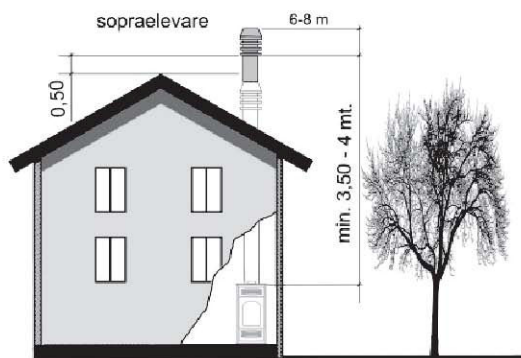

Fig.4
- The chimney pot must be positioned so as to guarantee an adequate dispersion and dilution of combustion products and, in any case, outside the zone of reflux. This zone can be of different sizes and shapes depending on the angle of slope of the roof, so it is necessary to adopt the minimum heights shown in *fig. 4* and *fig. 5*.
- The chimney pot must be of wind-proof type and exceed the height of the ridge, *fig. 4* and *fig. 5*.
- Any buildings or other obstacles that exceed the height of the chimney pot must not be close to the chimney pot itself (*fig. 4*).